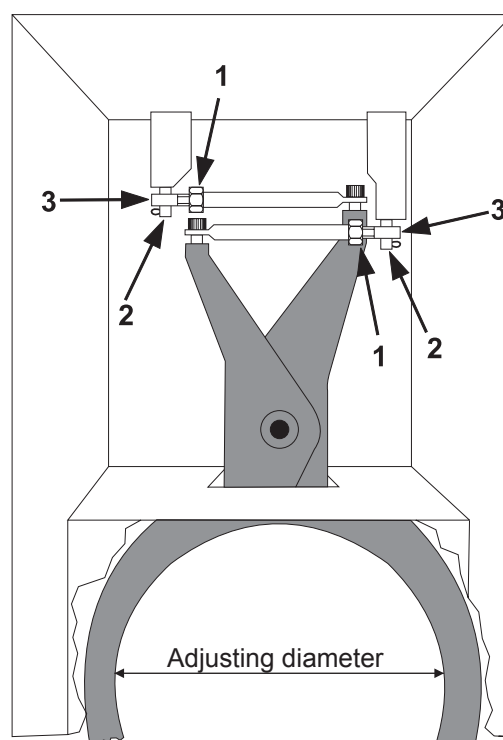

Fig. 3
The bowl arms must be raised to normal working position. Loosen the counter nuts (1), (**Fig.3**) and remove the cotter pins (2). Turn the bolts (3) until correct fixing of the bowl is achieved. By turning the bolts **out** of the extension tube the fixing is increased. Start by turning one of the bolts half a revolution.